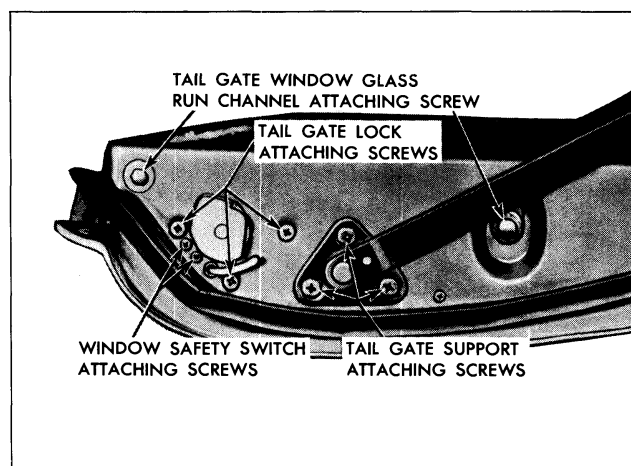

Fig. 5-7 Lock and Support
6. Support tail gate to facilitate detachment of tail gate supports; then remove support attaching screws (Fig. 5-7) from both sides of tail gate and fold tail gate supports against body.